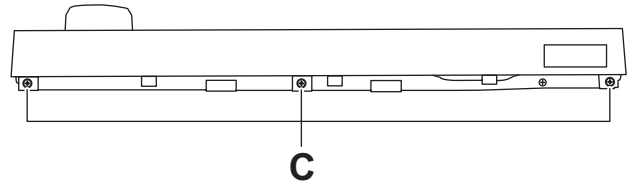

Fig.3
3.1.2 Removing the front panel assembly (See Fig. 3 to 5)